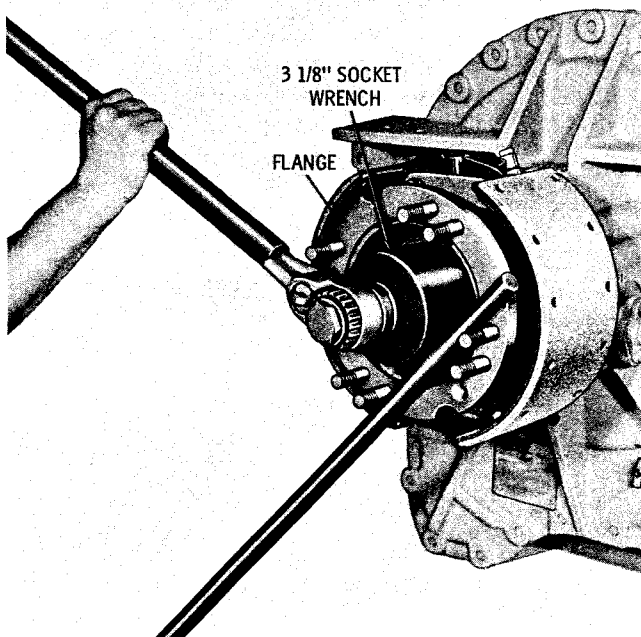

Fig. 5-53. Removing output flange nut
(3) Using a 3 1/8-inch socket wrench, remove the nut that retains the output flange (fig. 5-53). The output flange is retained by two bolts 71 (A, foldout 17), lockstrip 70, retainer washer 69 on some models. Remove shims 74, if used. On models using coupling 12 (B, foldout 17), remove bolts 15, lockstrip 14, washer 13 and shims 16.